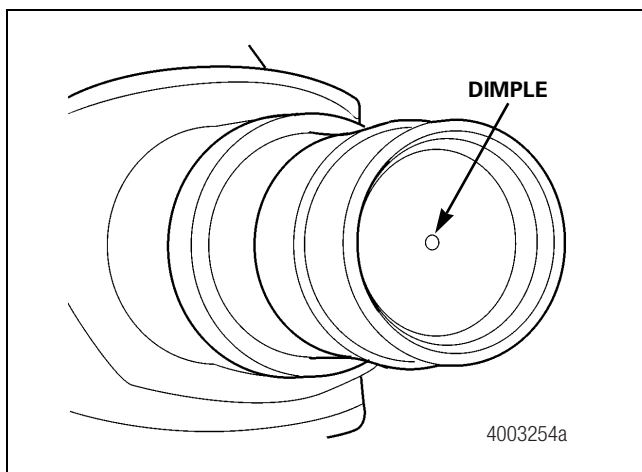

Figure 8.10
3. An acceptable gauge point for measuring "C" and "D" is the dimple in the spindle end plug located on most trailer axles. To reach this plug, remove the rubber hubcap oil filler plugs. Other acceptable gauge points are the edges of the wheel rims as noted earlier. Figure 8.10.